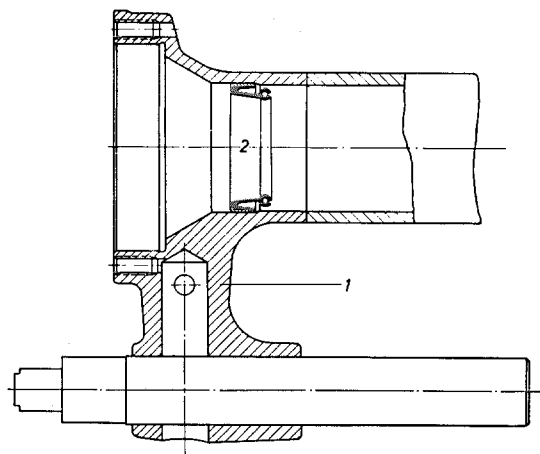

Fig. 35 — 4/13
43. Press or drive a new seal into the axle tube as far as the shoulder, using Installing Arbor (Fig. 35 — 4/14 and Fig. 4/14 a).